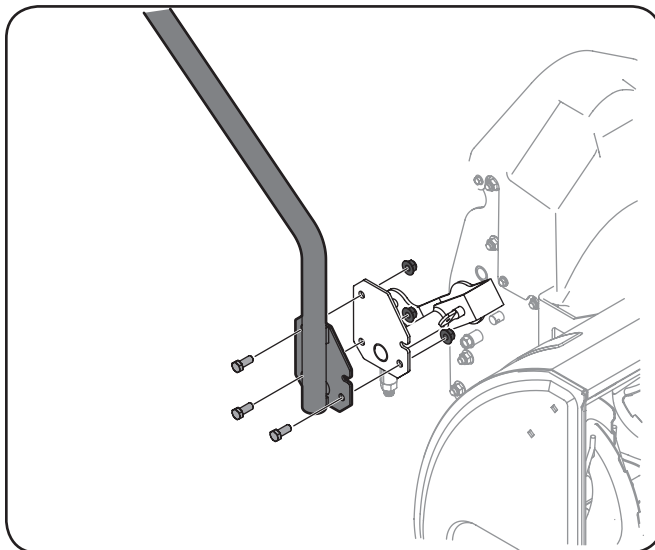

Figure 3-19
1. Using two $\frac{5}{16}$ " wrenches, secure the lift handle to the auger housing assembly with three hex screws and flange lock nuts. See Figure 3-19.